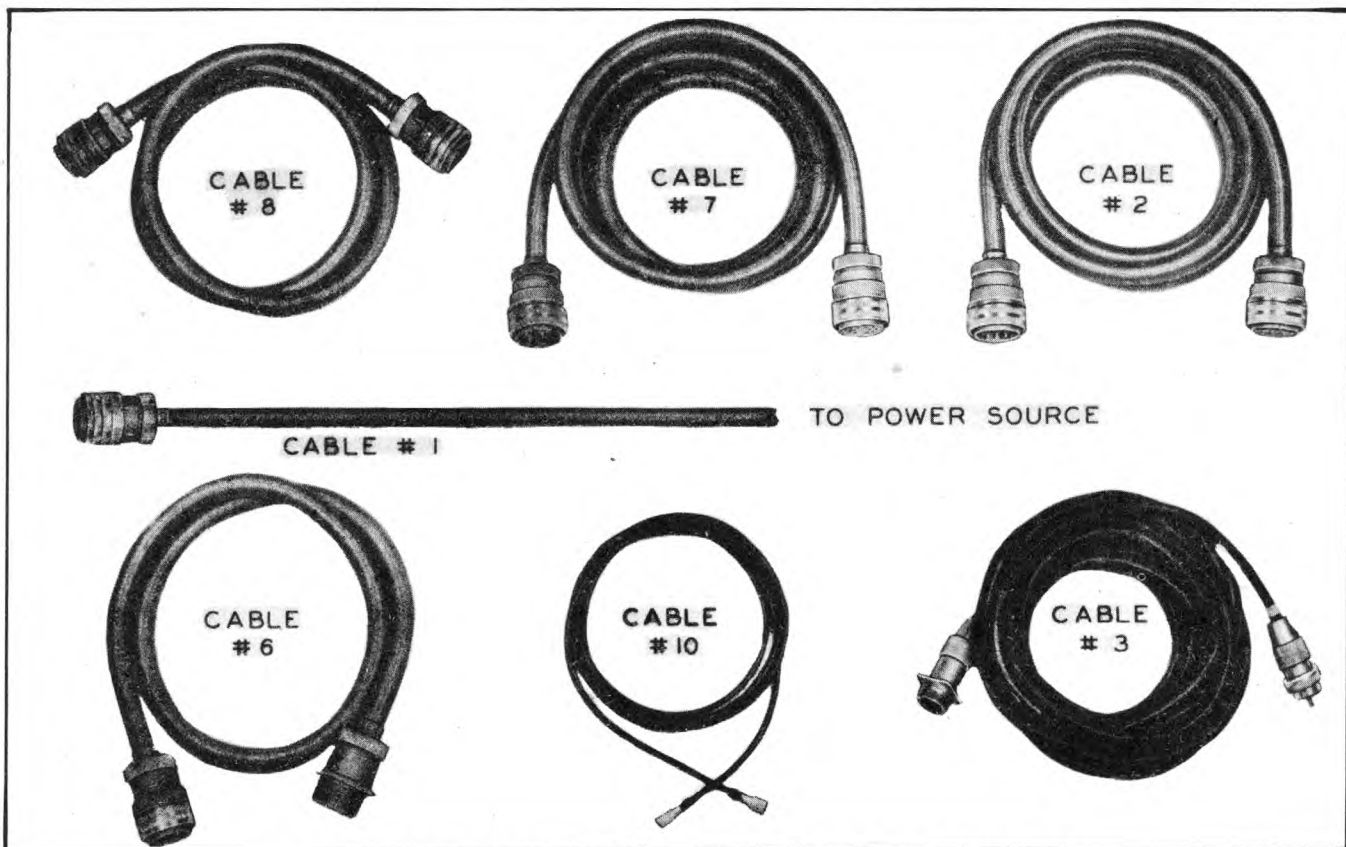

Figure 2-13. Radio Set AN/APS-10—Cables No. 1, 2, 3, 6, 7, 8, and 10
(1) FABRICATION OF CABLES.—The length of the following cable assemblies is determined by circumstances of installation. Follow the recommended procedure outlined below, referring to the cabling diagram, figure 2-19, and the cable assembly drawings, figure 2-13 through figure 2-18, inclusive. All numbered wires should be of approved type and insulation covered.